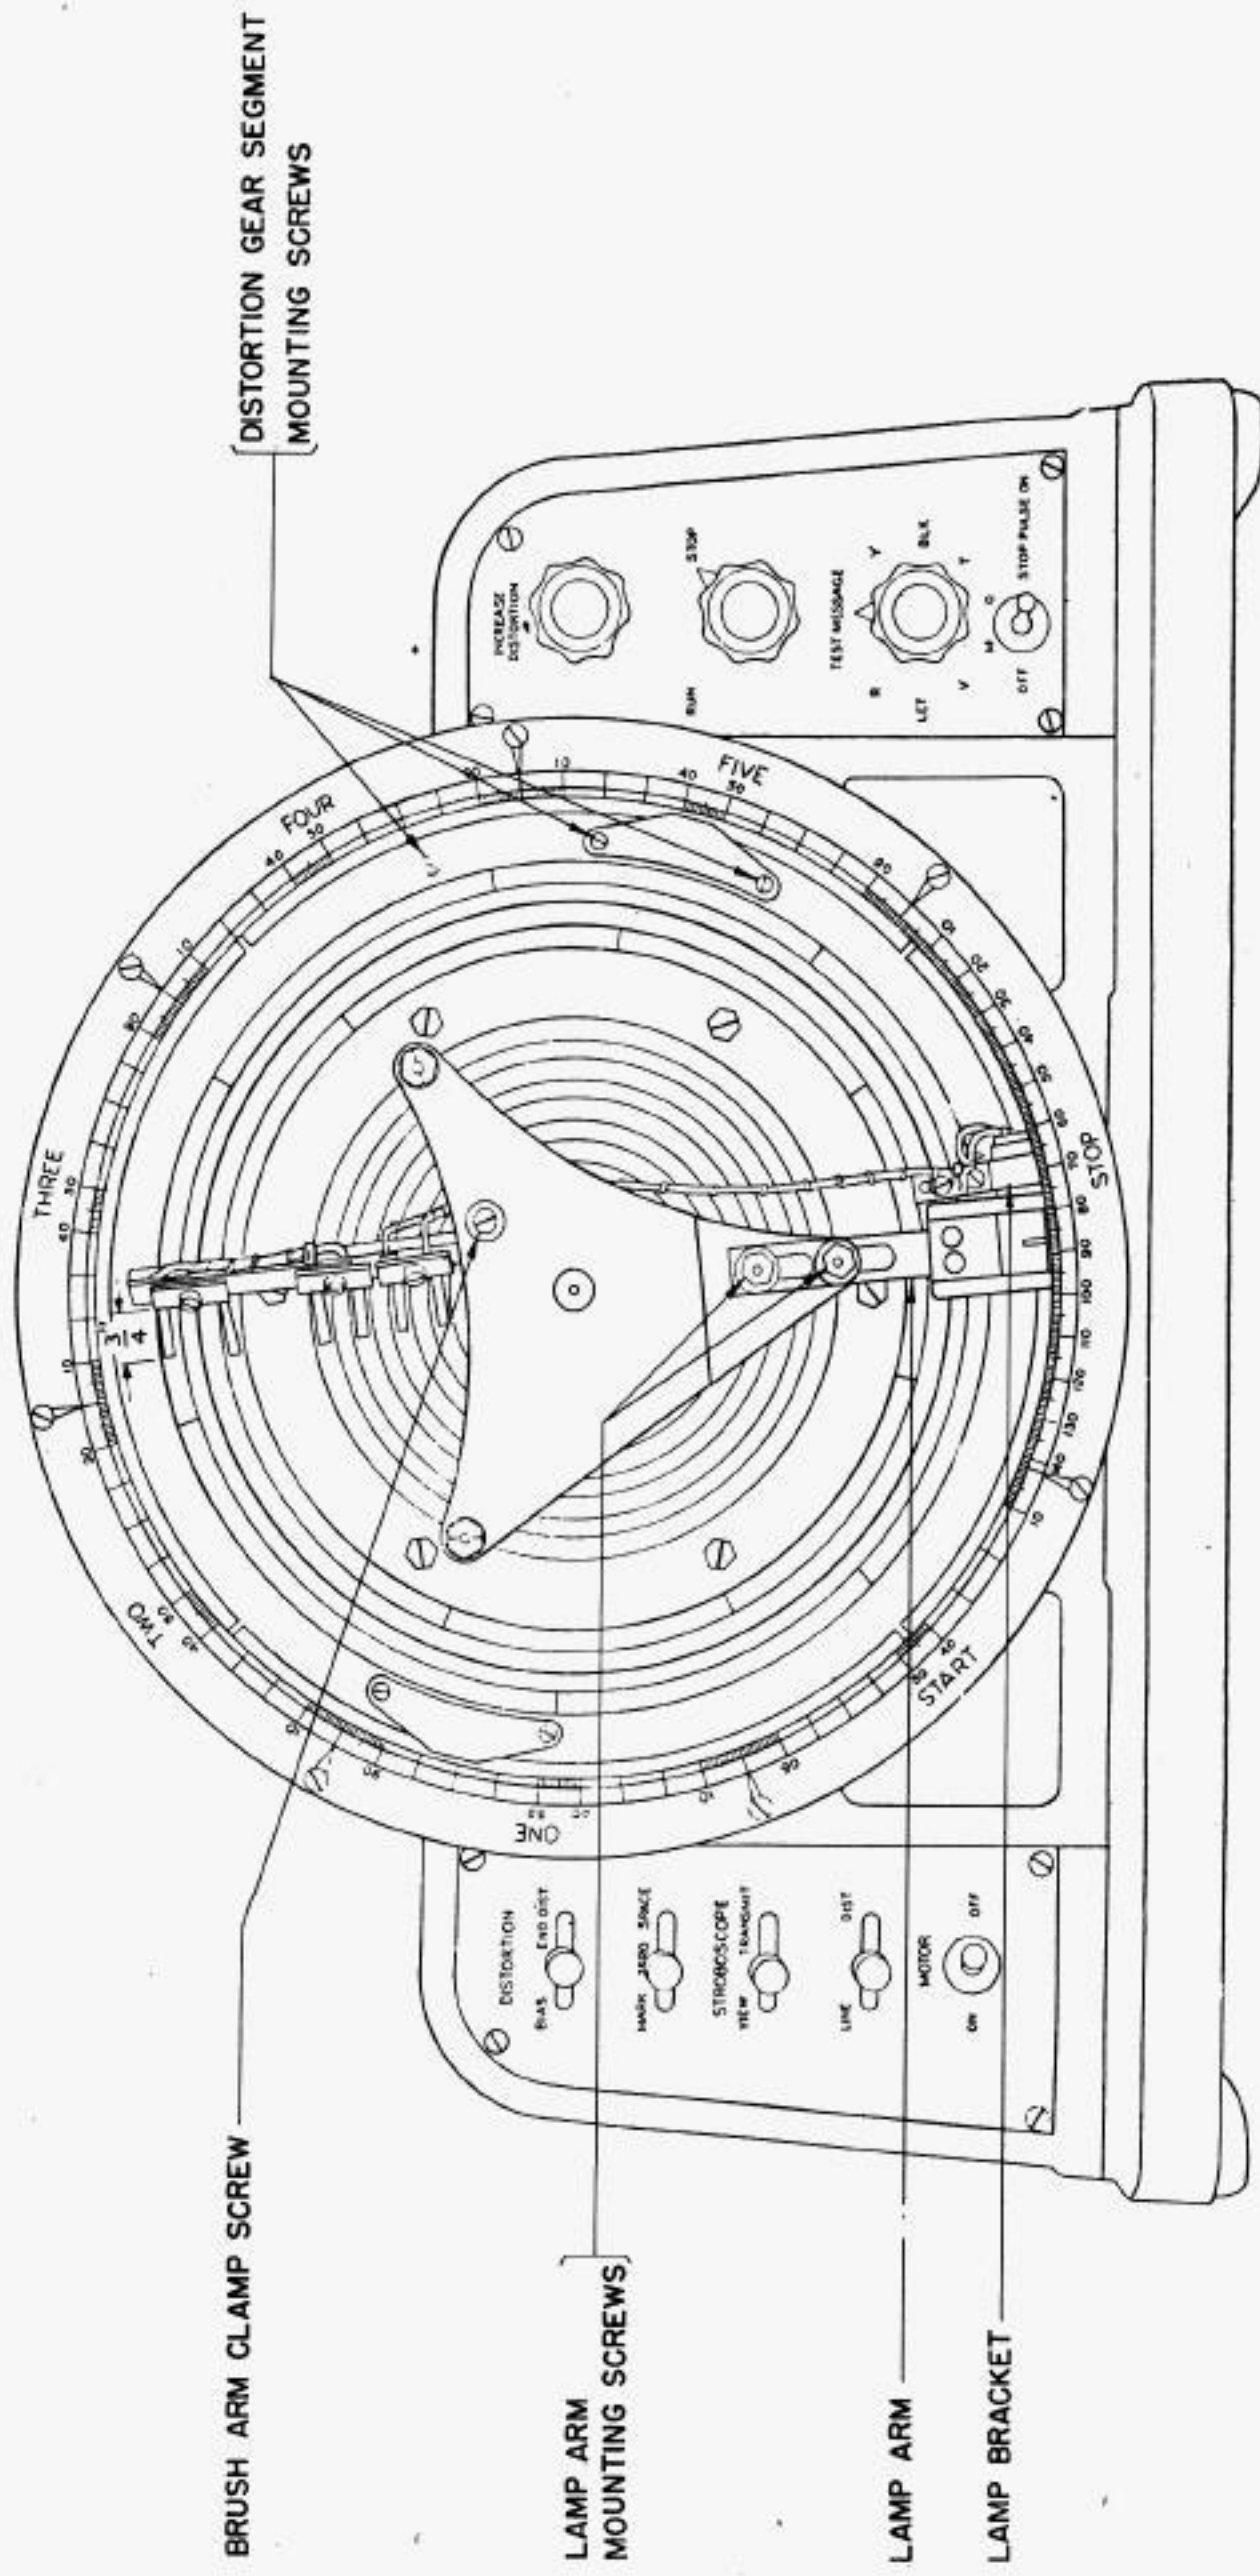

FIGURE 1
Remove the large test set cover and the disc front cover. Loosen the brush arm clamp screw. Move the brushes away from the disc and tighten the clamp screw. (See Figure 1.)
### DISTORTION ADJUSTING GEAR SEGMENT ADJUSTMENT (Figures 1 & 2.)
- (1) With the Code Selecting Knob (Figure 1) in the R position, there should be a gap of .015" to .025" between each pair of contact points of the numbers 1, 3 and 5 contact assemblies. To adjust, bend the short contact springs and their stiffeners. (See Figure 4-A)
The face of the slotted part of the lamp arm should be approximately in line with the face of the scale. There should be some clearance, not more than .006" at the point of least clearance between the end of the slotted part of the lamp arm and the edge of the scale plate. To adjust, loosen the lamp arm mounting screws and position the arm. Tighten the mounting screws. (See Figure 1.)
The ends of the brushes should be cut square and be free from fragments. The brushes should be straight and extend at right angles to and 3/4" from the brush arm. To adjust, loosen the brush clamp screws and position the brushes. Tighten the clamp screws, then loosen the brush arm clamp screw, move the brushes against their respective discs until the post on the brush arm is against its stop post. (See Figure 1.)
adjust, remove the front cover and loosen the lamp bracket mounting screw and position the bracket. Tighten the mounting screw. (See Figure 1.)